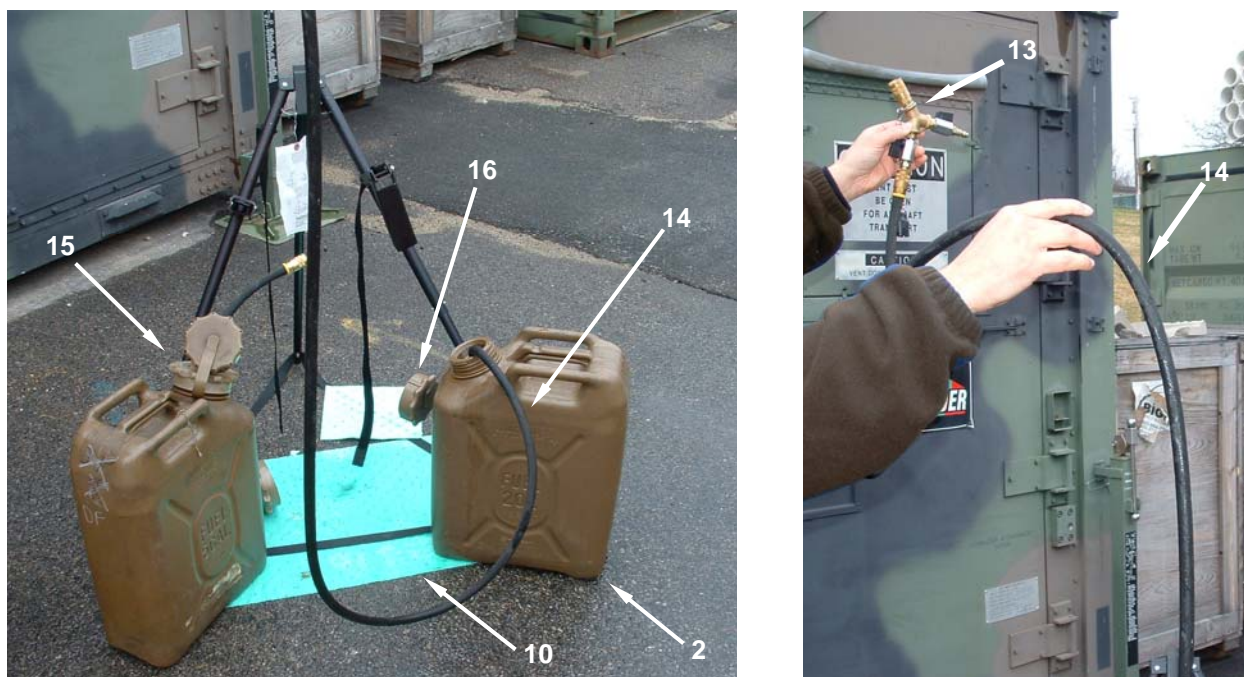

Figure 19. Prepare for Movement – Draining the Fuel Hose.
14. Remove the gravity feed adapter (**Figure 19, Item 15**) from one fuel can (**Figure 19, Item 2**), and leave the can open.
15. Place the male end of the fuel hose (**Figure 19, Item 14**) into the open can (**Figure 19, Item 2**).
16. Connect the Y adapter (**Figure 19, Item 13**) to the female end of the fuel hose (**Figure 19, Item 14**), and raise the Y adapter above the level of the fuel can (**Figure 19, Item 2**).
17. Open both valves on the Y adapter (**Figure 19, Item 13**), and slowly “walk out” the remaining fuel from the fuel hose (**Figure 19, Item 14**) into the fuel can (**Figure 19, Item 2**) progressively raising the fuel hose from the Y adapter to the fuel can.
18. Close both valves on the Y adapter (**Figure 19, Item 13**), and disconnect the Y adapter from the fuel hose (**Figure 19, Item 14**). Cap the Y adapter male fittings with the attached caps.
19. Remove the male end of the fuel hose (**Figure 19, Item 14**) from the fuel can (**Figure 19, Item 2**), and quickly connect the male and female ends of the fuel hose together. Wipe the connection clean of all fuel, and place the fuel hose on the petroleum absorbent mat (**Figure 19, Item 10**).
20. Install the cap (**Figure 19, Item 16**) on the open fuel can (**Figure 19, Item 2**).
21. Remove the gravity feed adapter (**Figure 19, Item 13**) from the remaining fuel can (**Figure 19, Item 13**).
22. Install the cap (**Figure 19, Item 16**) on the fuel can (**Figure 19, Item 2**) and tighten securely.
23. Place both gravity feed adapters (**Figure 19, Item 15**) on a petroleum absorbent mat (**Figure 19, Item 10**). Use the mat to wipe any excess fuel from the surface of the gravity feed adapters.